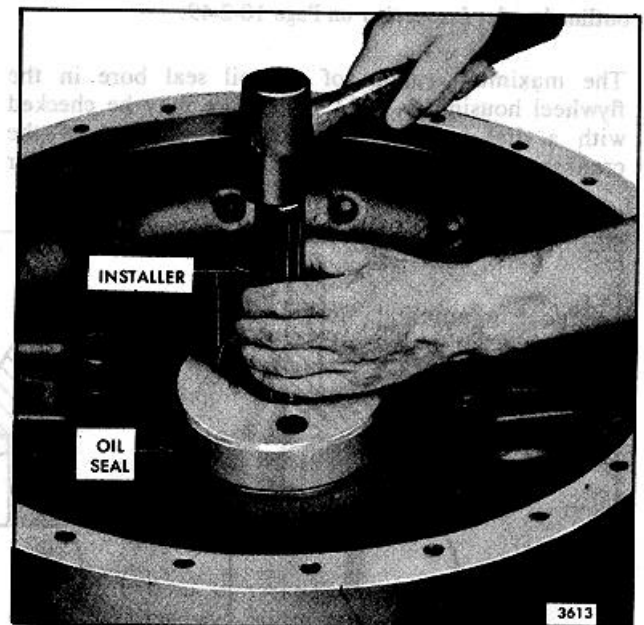

Fig. 6. Installing Oil Seal in Flywheel Housing
5. Drive the seal into the housing with installer J 9727 and handle J 3154-1 (Fig. 6) until it is seated against the seal spacer (if used) or on the shoulder in the housing bore. The installer prevents damage to the seal by exerting force only on the outer edge of the seal casing.